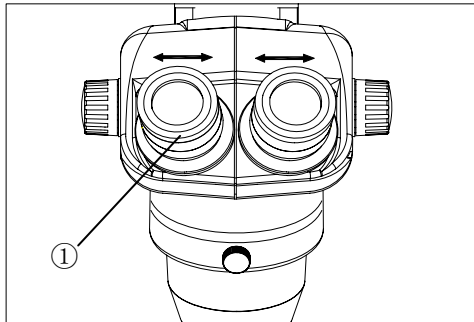

Fig 5
3.1.1 Interpupillary adjustment (fig.5)